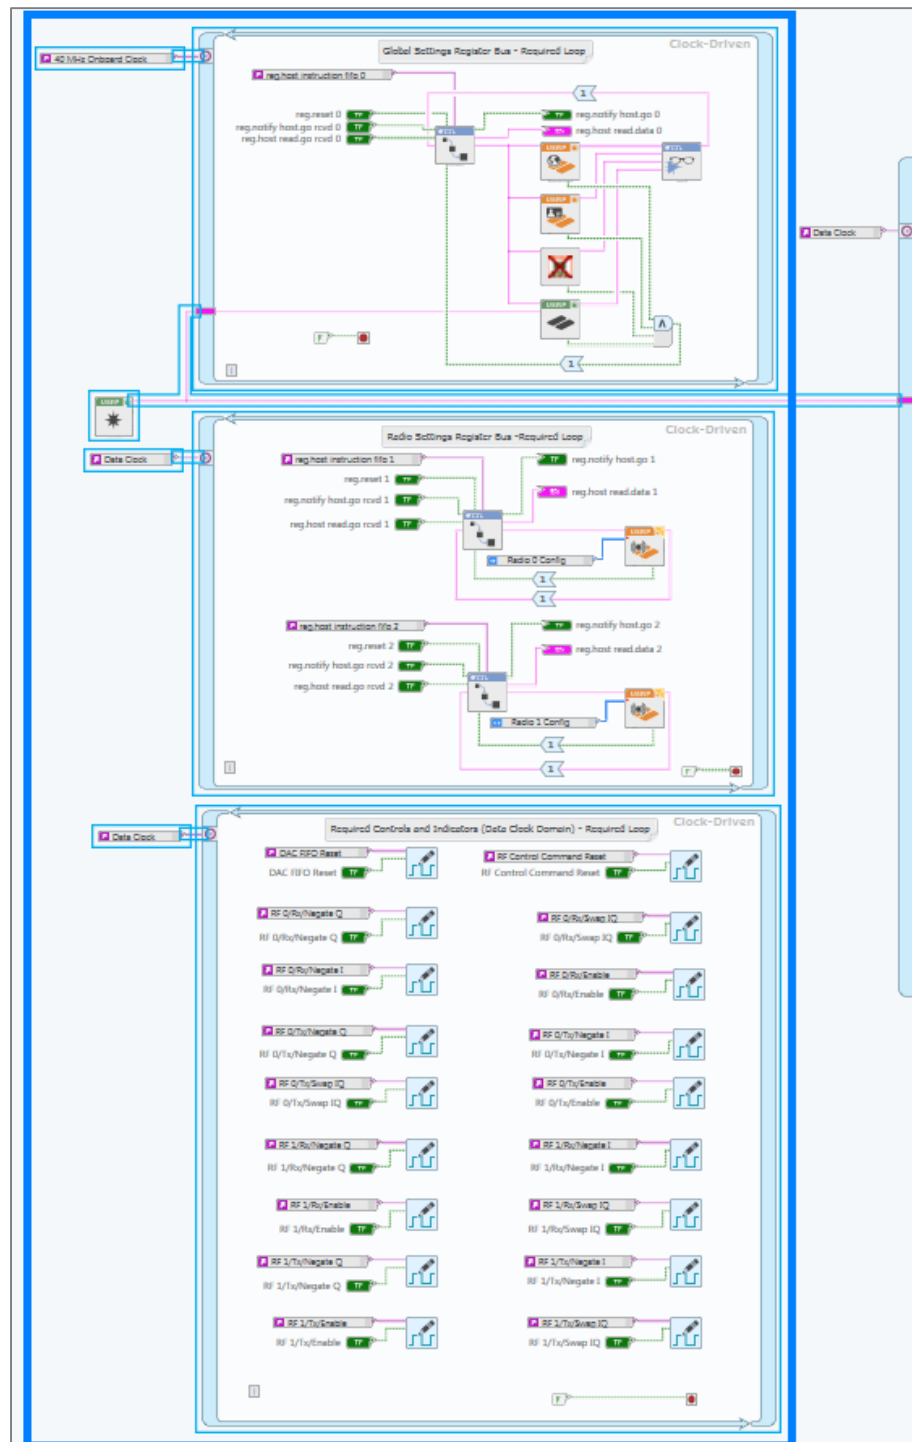

Figure 56: Clock Driven Loops
- Find the three Clock-Driven Loops used for interfacing with the USRP and remove those loops as shown in Figure 56.